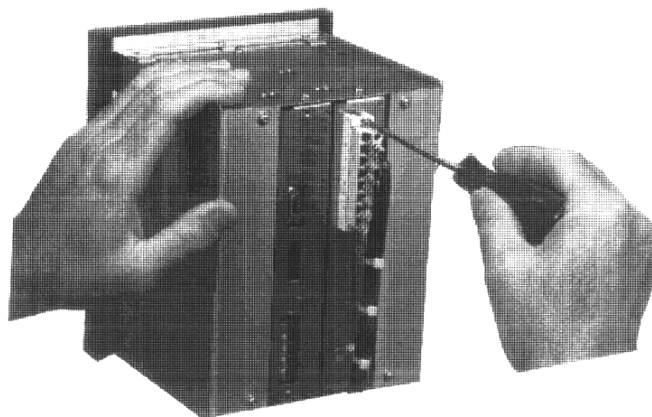

Figure 21: Installing 8-position removable terminal block
5. Tighten the terminal block retaining screws on the digital relay rear panel to 6–9 lb-in (0.68–1 N•m); see figure 21 below.